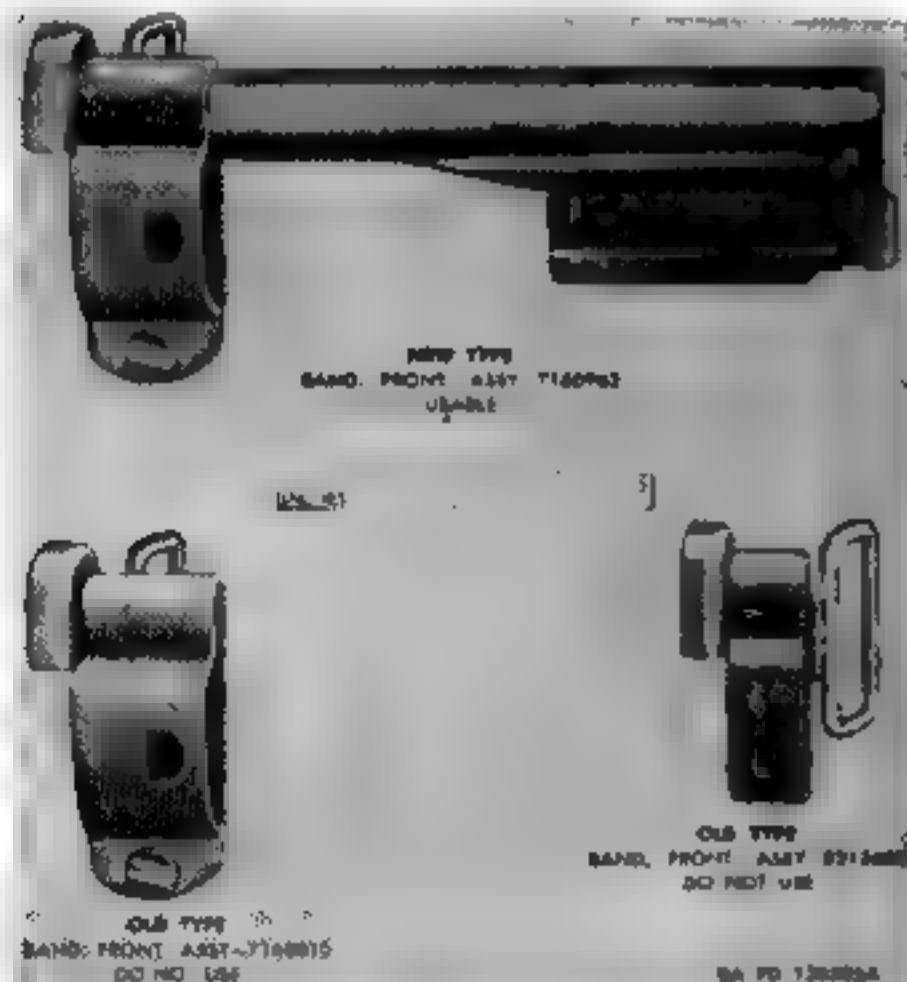

Figure 81. Front band assemblies.
(J) Check to see that the new type front band assembly (Fig. 81) is used and that the rivets are tight. Visually inspect bayonet stud on front band to assure that it is in good condition. Modification Work Order ORD B28-W5 specifies that the old type front band assemblies must be replaced with the new type (Fig. 81) and describes the pro-